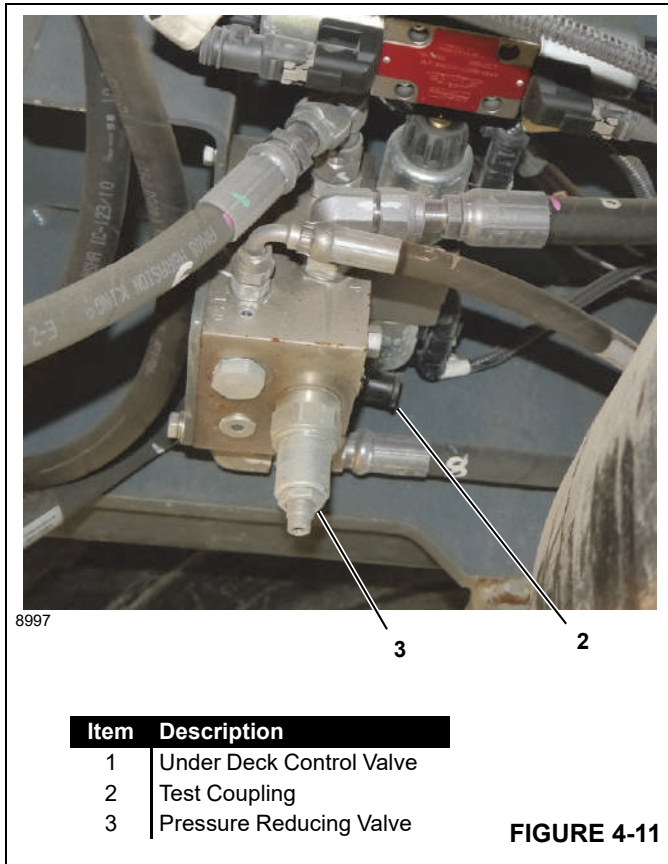

FIGURE 4-11
The winch circuit includes a planetary winch with hydraulic motor mounted under the front of the carrier, a three-position solenoid operated control valve (Figure 4-11), a pressure reducing valve, and a three-position switch on the instrument panel.
3. STOP the engine and attach a pressure diagnostic quick disconnect (Parker PD240) with accurate hydraulic pressure gauge to the test coupling (2, Figure 4-11).